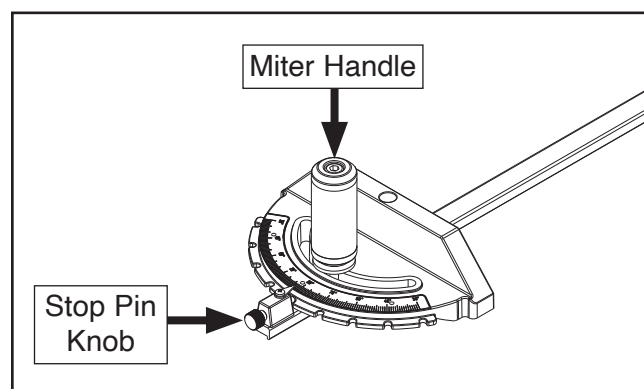

Figure 128. Miter gauge adjustment components.
3. Loosen miter handle and pull stop pin knob (see **Figure 128**).